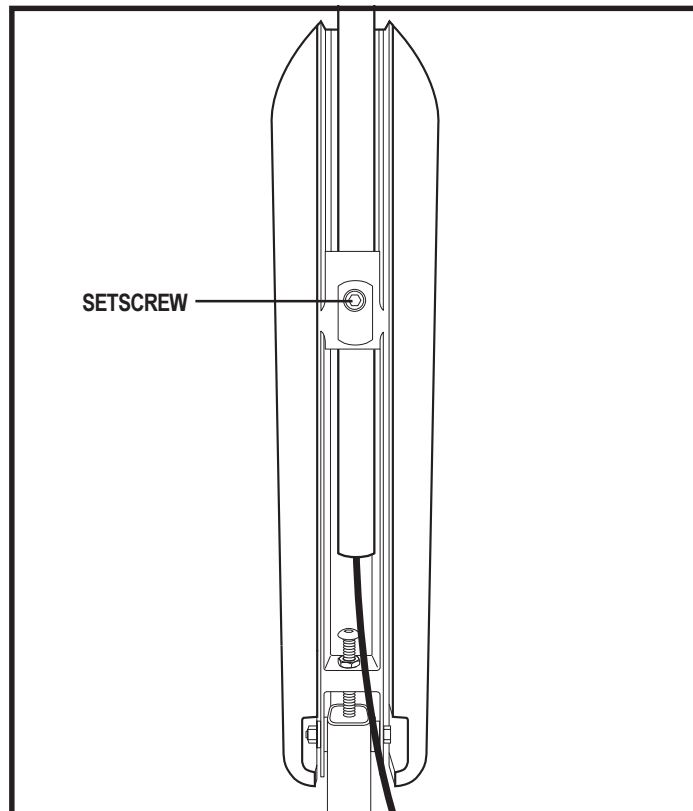
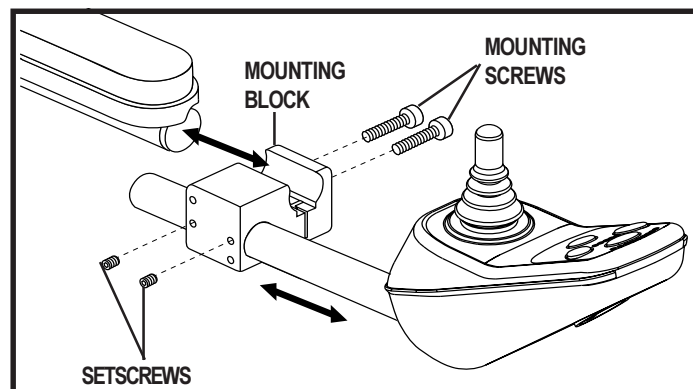

Figure 17. Underside of Armrest
Figure 18. Adjusting Controller Position (Mounting Block Shown)
6. On a contour seat, flip up the armrest and loosen the setscrew. See figure 17. On the standard seat, loosen the setscrews in the mounting block. See figure 18.
8. On a contour seat, loosen the setscrew in the other arm rest. On the standard seat, loosen the mounting screws in the mounting block, move the mounting block to the other arm rest, and tighten the mounting screws. See figure 18.